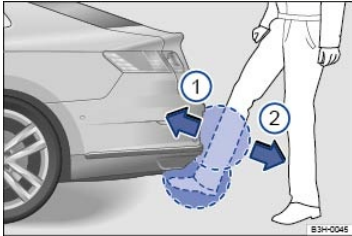

Fig. 73 Keyless Access locking and starting system: Opening the sensor-controlled trunk lid (Easy Open).
- Move your foot under the middle of the rear bumper in a kicking motion ⇒ Fig. 73, ① then ② (arrows).